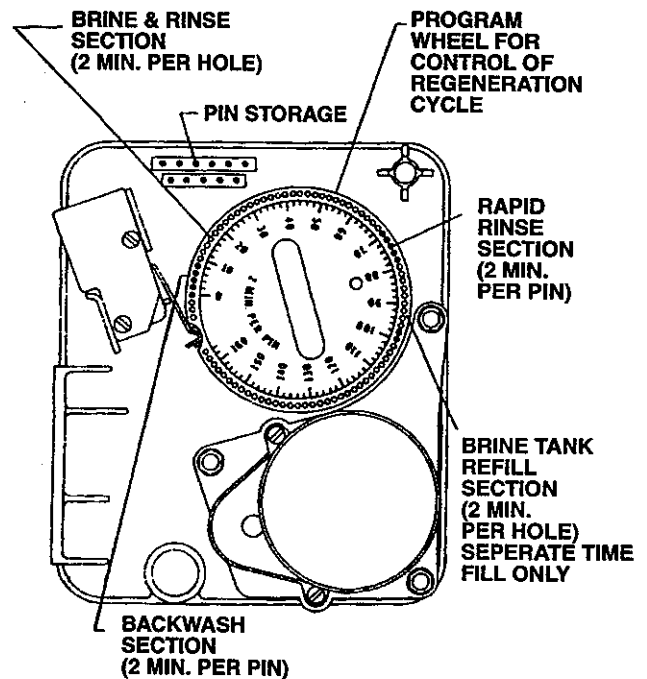

Figure 2
Each control valve position can be manually selected by rotating the manual regeneration knob clockwise until first microswitch located on rear of timer door is aligned with each cycle position on the program wheel. (See Figure 2.)
1. Manually index manual regeneration knob to **BACKWASH** position and allow water to run to drain 3 to 4 minutes. (See Figure 2.)
2. Manually index manual regeneration knob to **BRINE REFILL** position and allow the brine tank to fill just over the salt grid plate. (See Figure 2.)
3. Manually index manual regeneration knob to **BRINE & RINSE** position and allow the control valve to draw water from brine tank until it stops. (See Figure 2.)
4. Manually index manual regeneration knob to **SERVICE** position. (See Figure 2.)
5. Manually index manual regeneration knob to **BRINE TANK REFILL** position and allow the control valve to automatically fill the brine tank. (See Figure 2.)